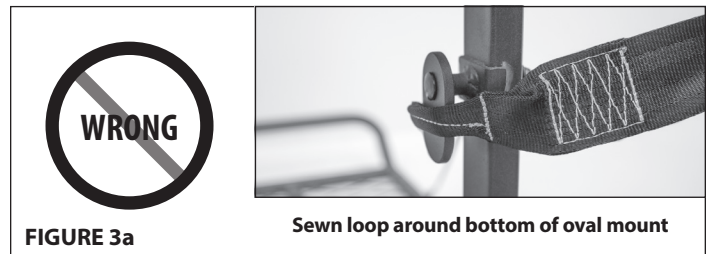

FIGURE 3a
3. It is critical that you secure the sewn loops of Big Foot XL strap to the oval mounts properly and securely, your life depends on it! **DO NOT** attach the sewn loops of the strap as shown in **FIGURES 3a and 3b** or any other incorrect fashion or you may be seriously injured or killed due to sudden release of an incorrectly attached strap/treestand to the tree!